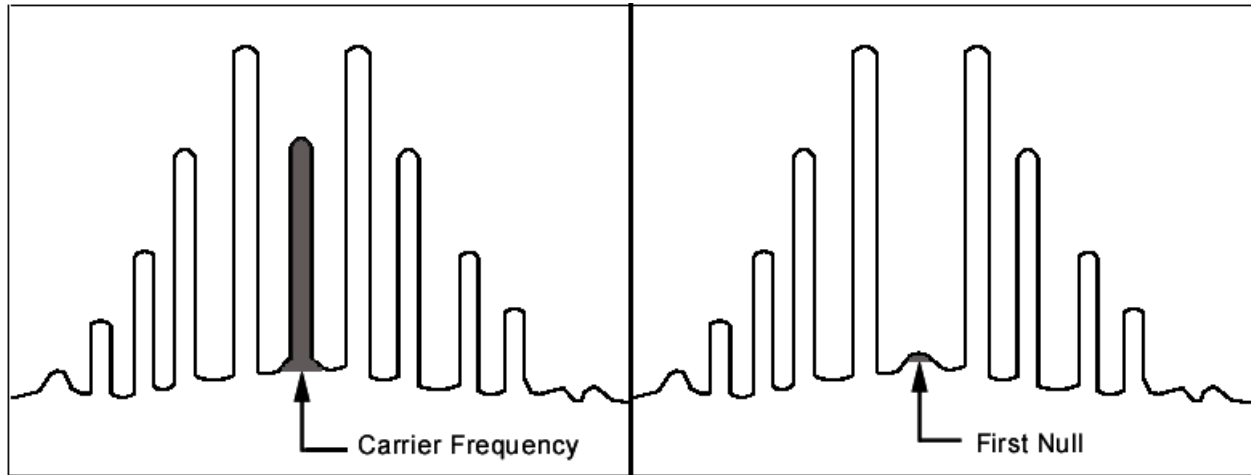

Figure 4. First carrier null of carrier frequency.
- (2) Set function/arbitrary generator controls for a 5 kHz, + 7 dBm output.
- (3) Set TI **TEST MODE** switch to **FM** and **CARRIER FREQUENCY TUNE** to 12.5 MHz. (Default reading from setup in previous test. If in doubt, initially verify this frequency output.)
- (4) Set spectrum analyzer to measure the 12.5 MHz carrier frequency utilizing optimum settings for a display of carrier frequency as shown in figure 4.
- (5) Momentarily disconnect TI **AUDIO INPUT** and adjust spectrum analyzer reference level for full screen deflection of the carrier signal. Reconnect **AUDIO INPUT**.
(6) Adjust function/arbitrary generator output level until the spectrum analyzer indicates the TI carrier signal nulls into noise baseline as shown in figure 4. (The level should be adjusted so that the TI signal null is half way between the two levels at which the carrier comes out of the noise.)
- (10) Adjust spectrum analyzer until the second harmonic of the doubled carrier frequency signal (approximately 1600 MHz) can be observed. Again use optimum settings for a display as shown in figure 4.
- (11) Adjust function/arbitrary generator output level until multimeter indicates value noted in (7) above. Note function/arbitrary generator output level dBm setting.
- (12) Readjust function/arbitrary generator output level for a carrier null on spectrum analyzer, as shown in figure 4, and note change in function/arbitrary generator output dBm level. Level change will be less than ± 0.04 dBm of output level noted in (11) above.